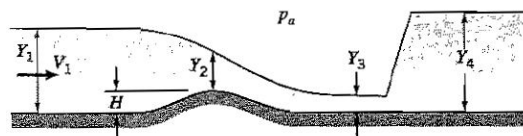

Figure P10.51
10.51 Water flows in an open channel of constant width as shown in Figure P10.51. The upstream Froude number $F_1 = 0.5$. At the point where the water flows over a bump of height H , the Froude number equals one.